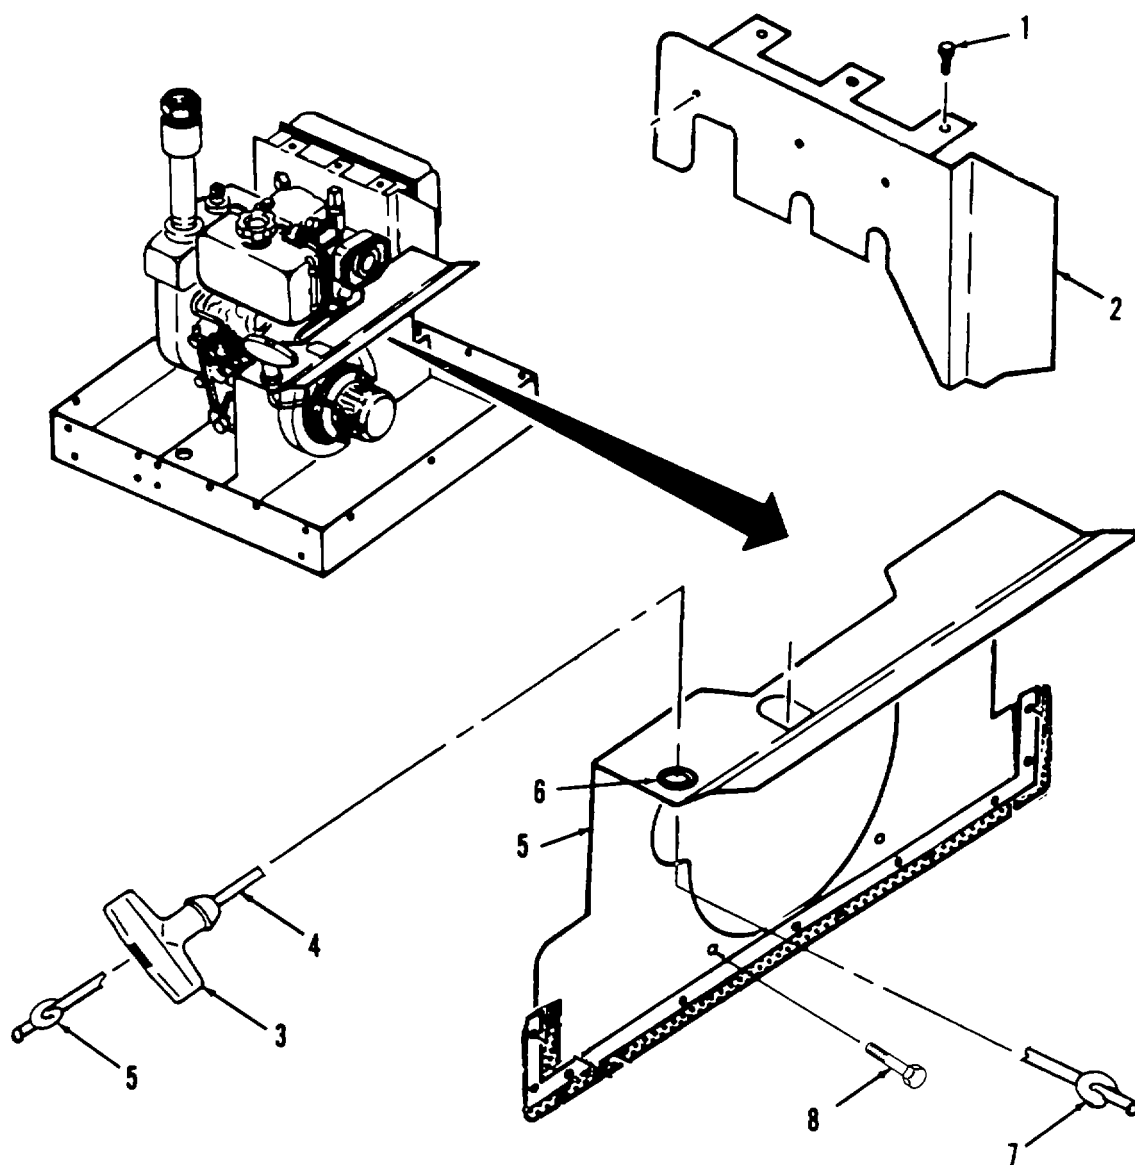

Figure 4-10. Baffles Replacement.
a. Removal. (Refer to Figure 4-10).
- (1) Remove three screws (1) and muffler baffle assembly (2).
- (2) Pull the rope T-handle (3) slowly, turning the crankshaft until approximately two feet of pull rope (4) is exposed.
- (3) Grasp the rope (4) firmly and pull the knot (5) in the rope about six inches out of the T-handle (3).